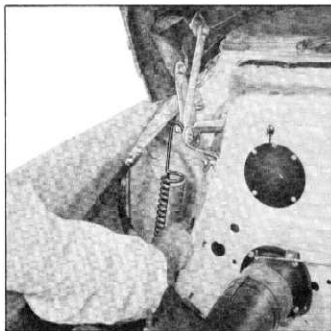

Fig. 6—Removing Hood Spring
- b. Then fully open hood and remove tool and spring (fig. 6).